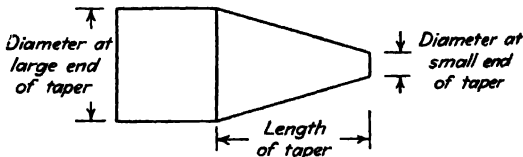

Fig. 16-2.
There are four parts to every taper: (1) the taper per inch or taper per foot; (2) the length of the tapered part; (3) the large diameter; and (4) the small diameter (Fig. 16-2).